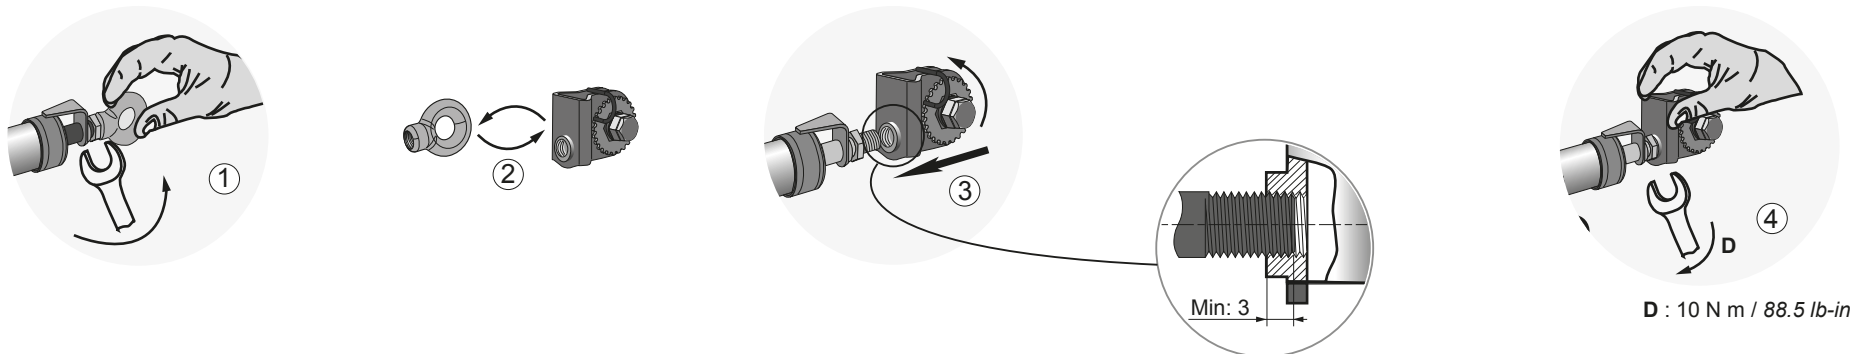

Fig.6 Setting with the cable tensioner / Réglage avec le tendeur de câble / Einstellung mit dem Spanngerät / Ajuste mediante el tensor del cable /
- B. Strip the cable 200 mm / 7.87 in. and pass it into the tensioner and then rotate the tensioner (fig. 6).
1. Use the tensioner XY2CZ210 to tighten and adjust the cable ⑤ until the index ⑩ is between the marks ⑨ (fig. 6 : 1 à 4).